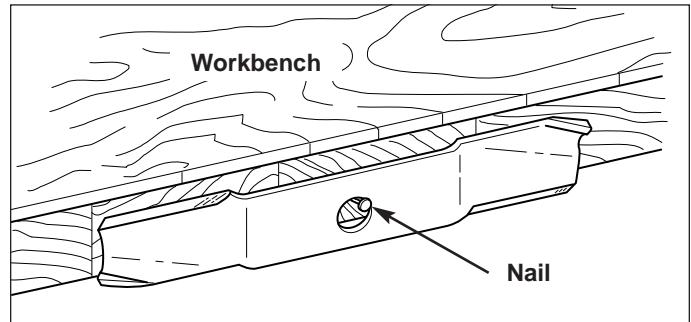

Figure 17. Balancing The Blade
5. Balance the blade as shown in Figure 17. Center the blade's hole on a nail lubricated with a drop of oil. A balanced blade will remain level.